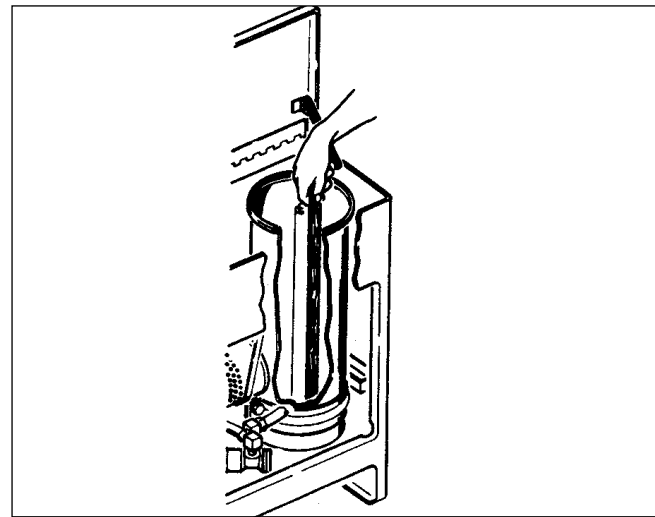

FIGURE 4-5, Canister
12. Clean standpipe thread in filter canister and reinstall standpipe, making sure seal ring is in proper place (see Figure 4-5).